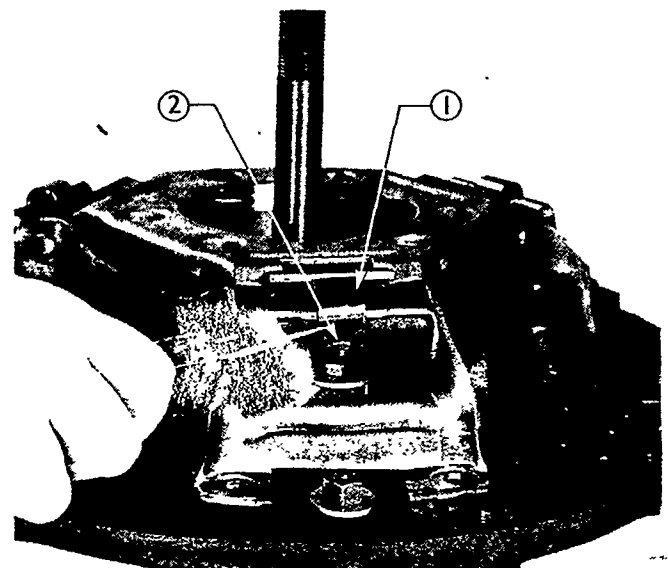

Figure 42
14. Install the release lever retainer clip using long-nose pliers, as shown in Figure 42. Make certain that each retainer clip is fully seated on the adjuster screw.